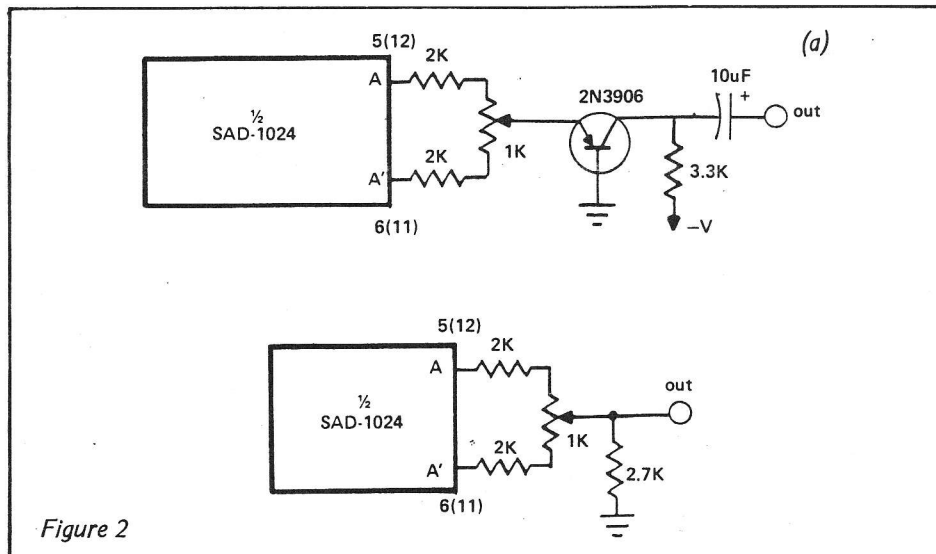

Figure 2
4. The outputs of one section of the SAD-1024 can be terminated in either of the following two ways shown in figure 2.